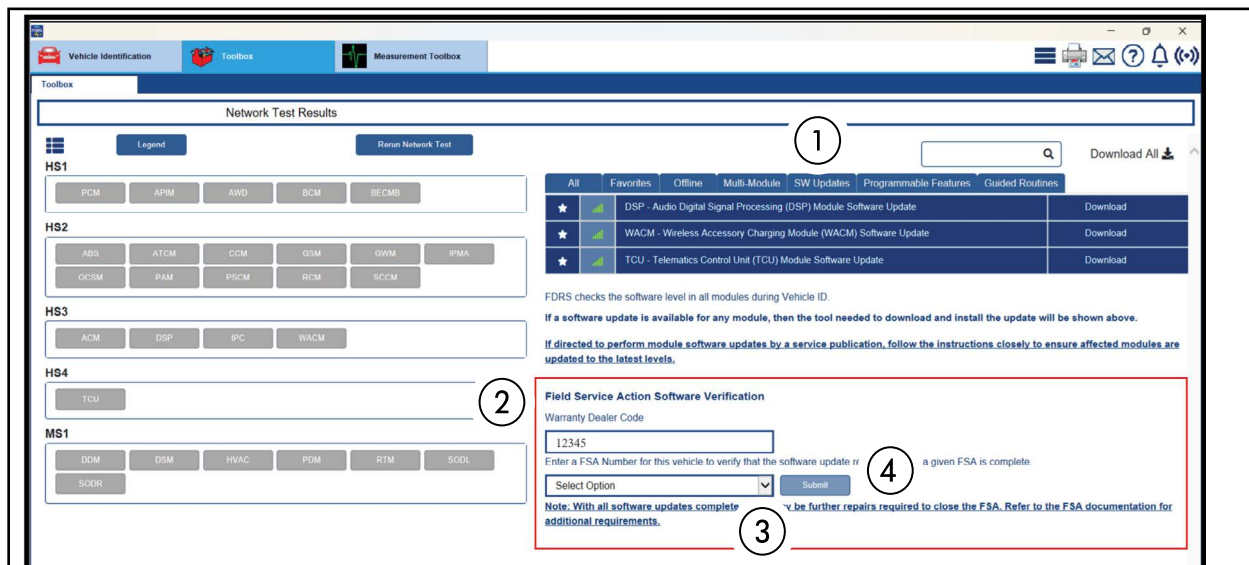

FIGURE 1
32. Select the **SW Updates** tab (1). See Figure 1.
33. **Warranty Dealer Code** (2) - Change the displayed PA code as necessary. See Figure 1.
34. Select the **FSA** (3) from the drop-down menu. See Figure 1.
35. Select **Submit** (4). See Figure 1.